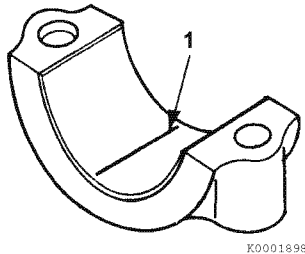

Figure 6-60
- 2- Place a piece of PLASTIGAGE (Figure 6-60, (1)) along the full width of each bearing insert.